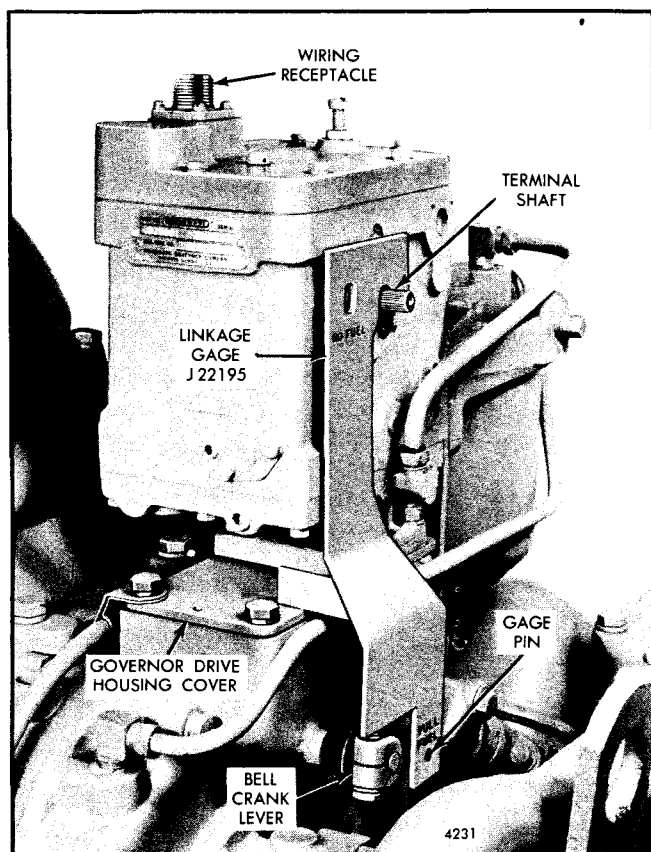

Fig. 2 - Linkage Gage in Position
5. Place the linkage gage J 22195 over the governor terminal shaft and insert the gage pin in the bell crank lever bolt hole (Fig. 2). The tang on the side of the gage should just touch the top of the governor drive housing when the gage is properly positioned. The gage will hold the injector control racks in the full-fuel position while the levers are being adjusted.